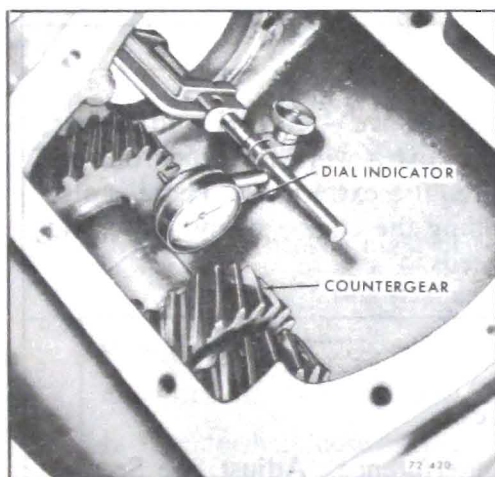

Figure 72-420 - Checking Countergear Alignment
5. Attach a dial indicator as shown in Figure 72-420 and check end play of countergear. If end play is greater than .025" new thrust washers must be installed.